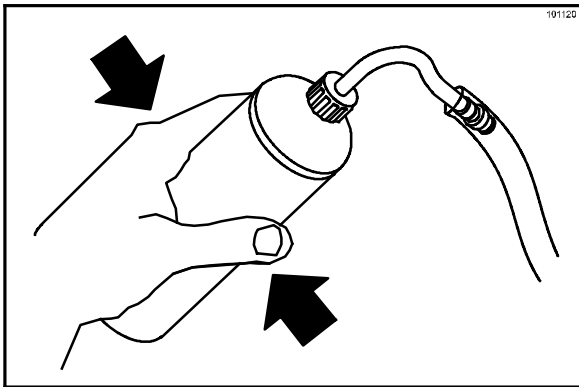

Figure 159
- Squeeze the cleaning bottle to fill the cleaning tube with sanitizing solution. (See Figure 159.)